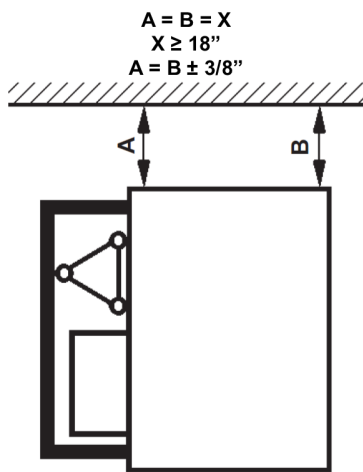
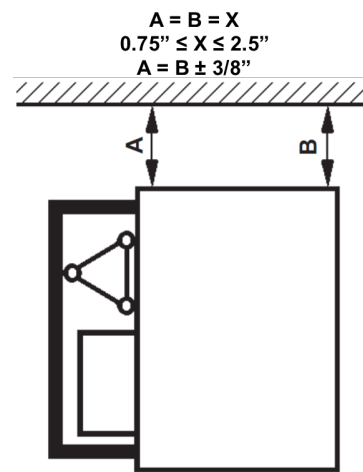

Figure 6.5
Figure 6.6
- **this distance must not be less than 18 in. if installing the unit as a Transport Platform as indicated in ANSI A92.10 as shown in figure 6.5 (if using landing doors for a transport platform supplied by BETAMAX set the unit 24 inches from the building for the door to function properly) or if installing the unit as a Material Hoist is not greater than 2.5 in. as shown in figure 6.6 in order to ensure the loading unit passes through with no difficulty and no risk of collision.**